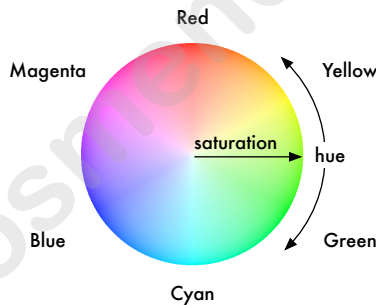

Figure 15.8. The Colour Wheel
- **Hue:** the colour's position in the possible range of colours, from red, going through yellow, green, cyan, blue and magenta, and finally returning to red. As the range 'wraps around', you can visualise it as a circle with the colours positioned around the edge, with red at the top, green at the lower right, blue at the lower left, and the intermediate colours in between. The angle between 0 and 360 degrees specifies the hue of the colour: red has a hue of 0 degrees, yellow has a hue of 60 degrees, and cyan has a hue of 180 degrees. See *Figure 15.8, "The Colour Wheel"*.